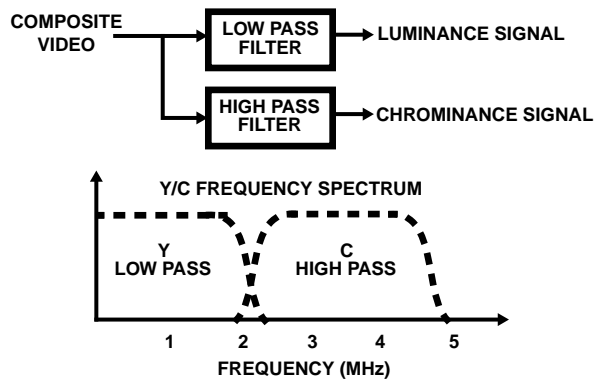

FIGURE 3. LOW PASS FILTER TECHNIQUE SPECTRUM
One of the initial separation techniques used was the Low Pass/High Pass Filter technique to separate the luminance and chrominance signals from the composite video signal. This was the simplest and least costly to implement when color TV was first available. To extract luminance (Y) information a low pass filter with a cutoff around 2MHz to 2.5MHz is used. A high pass filter with a bandpass characteristic of 2.5MHz to 5MHz is used to pass the chrominance (C) information. This method works because the C information is centered around 3.5MHz (4.43MHz for PAL) and extends down to 2.5MHz. Figure 3 shows a typical frequency plot of this technique. The drawback of this technique is loss of detail. High frequency luminance information is removed from the signal and as a result much detail is lost. Edges of objects in a scene contain very high frequency information, loss of these frequencies blur the picture. Some other artifacts from using this technique are high frequency luminance crosstalk and serious cross-color effects. This method, although low in cost, produces poor quality video, subsequently this technique is used only on very low cost VCRs these days.